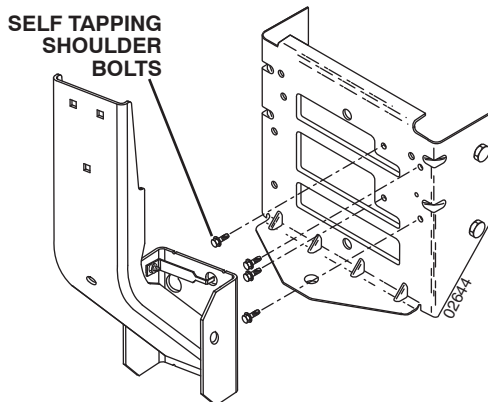

Fig. 1B
**NOTE:** If your tractor already has four (4) shoulder bolts installed on the rear drawbar, simply hang the mounting bracket, on the bolts. Discard included shoulder bolts and disregard Fig. 1B.
### SELF TAPPING SHOULDER BOLTS (See Fig. 1B)